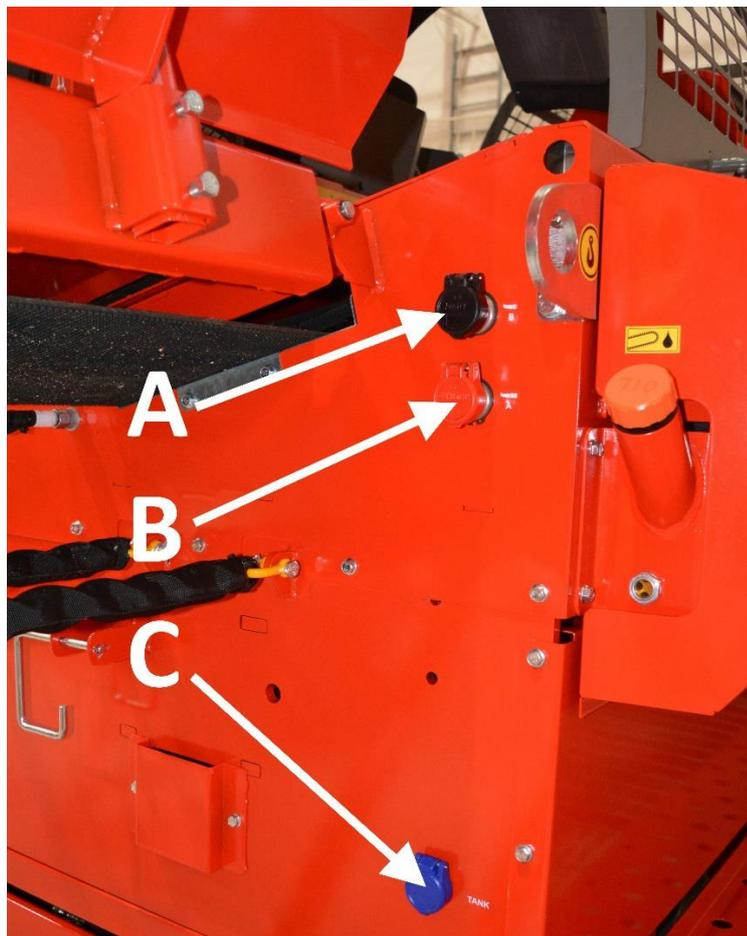

Figure 26.
1. Connect the additional hydraulics (e.g. when using the lateral transfer mechanism of the HakkiFeed 472 log table) by pushing the auxiliary device's hydraulic hoses into the quick couplings in Figure 26: